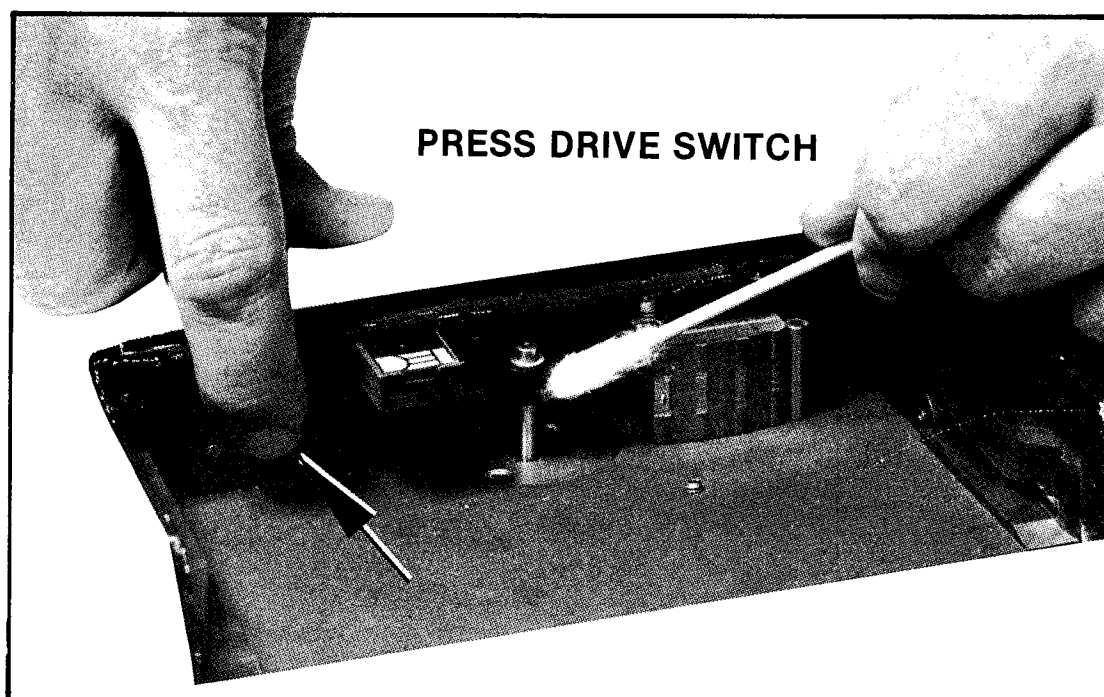

Figure 39. Cleaning motor capstan
2. Rotate the capstan by pressing one of the drive switches (Fig. 39).